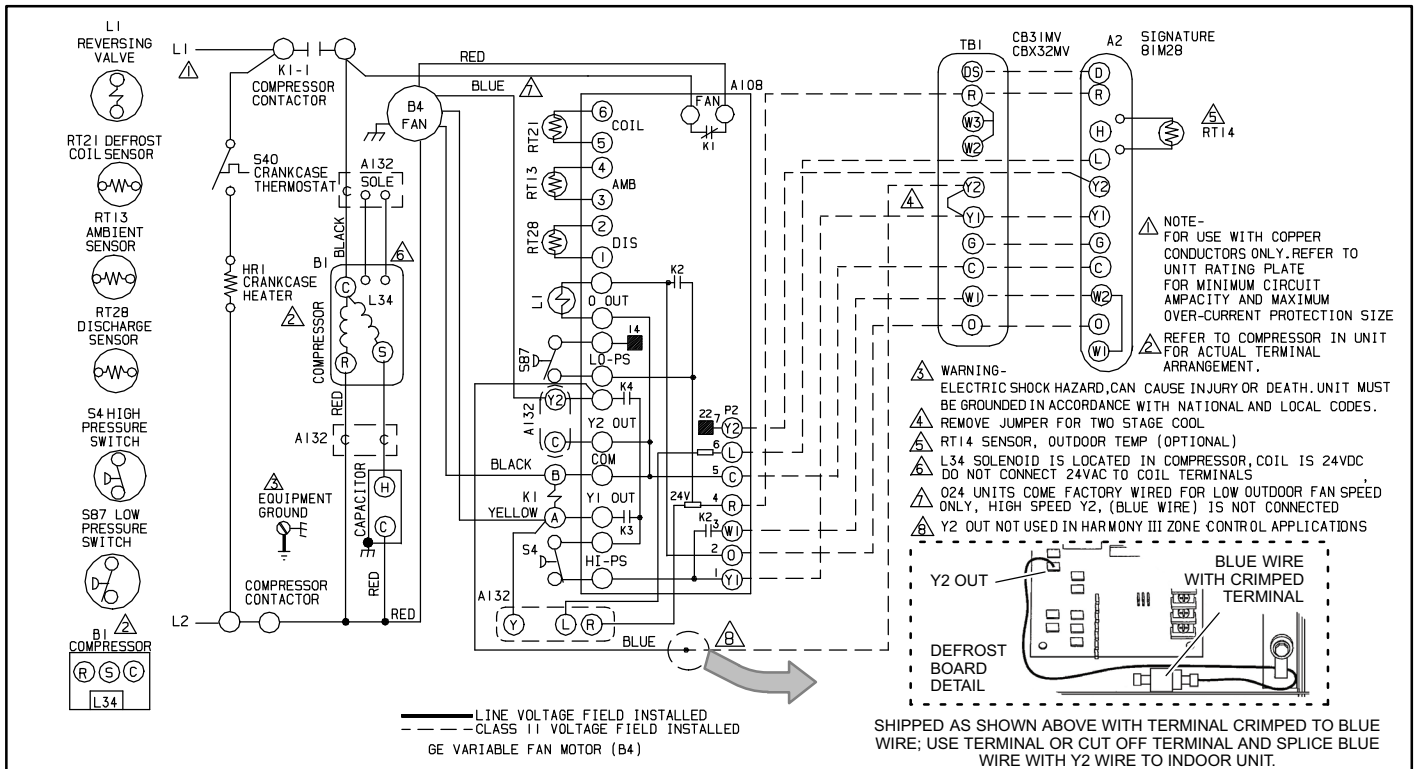

Figure 29. XP19 Wiring
4. Install low voltage wiring from outdoor to indoor unit and from thermostat to indoor unit as illustrated in Figure 29.